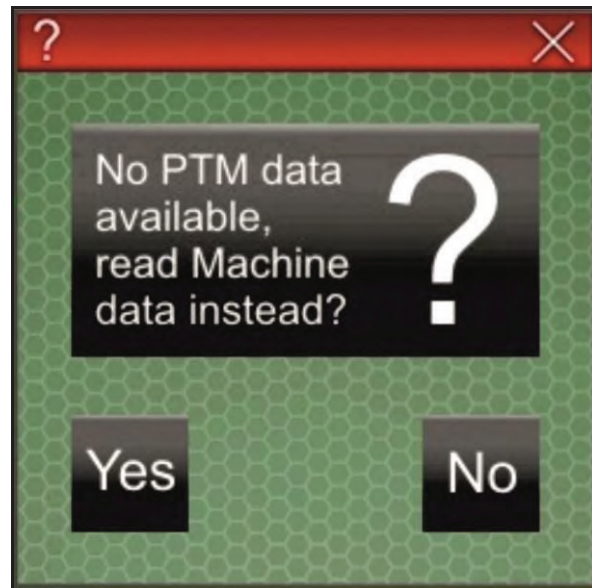

Fig. 189
6. If no data produced at the PC is available for being imported (Fig. 189), press